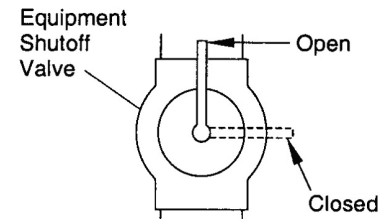

Figure 17- Equipment Shutoff Valve
1. Close equipment shutoff valve (see Figure 17).
1. Open equipment shutoff valve (see Figure 17).